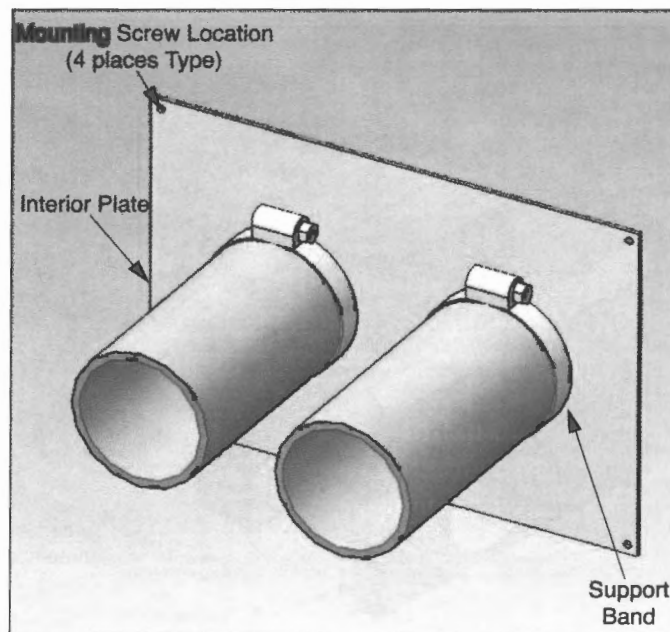
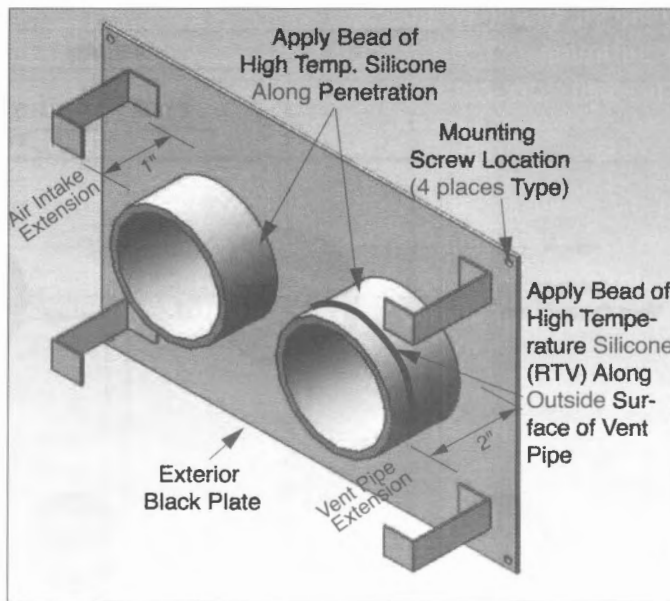

Fig. 2: Mounting of Interior Plate
Fig. 3: Mounting of Exterior Back Plate
6. Install the air intake piping and the vent piping through the penetration holes. Ensure the air intake piping extends beyond the exterior face of the wall 1" and the vent piping extends 2" beyond the exterior face of the wall. Tighten the support bands on the interior plate to support the piping. See Figure 2 and Figure 3.
7. Mount the exterior back plate over the protruding vent and air intake piping. Use the supplied #10 x 1" mounting screws to secure the plate to the exterior face of the building as shown in Figure 3.
8. Apply a bead of high temp silicone (RTV) around the vent and air intake piping where it penetrates through the exterior back plate as shown in Figure 3.
9. Apply a generous bead of high temperature silicone (RTV) along the outside circumference of the vent pipe as shown in Figure 3.